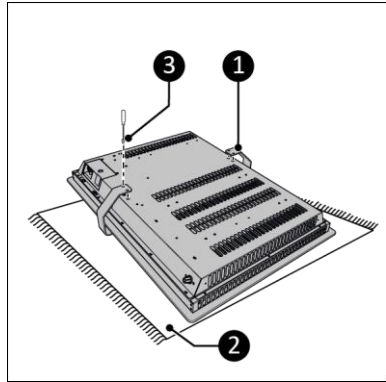

Figure 7
1. Lay the device down on a soft, steady surface (Figure 7, pos. 2).
3. Carefully slide the towel rail (Figure 7, pos. 1) under the device.
4. Install the towel rail on the backside of the device using a Phillips screwdriver (Figure 7, pos. 3).